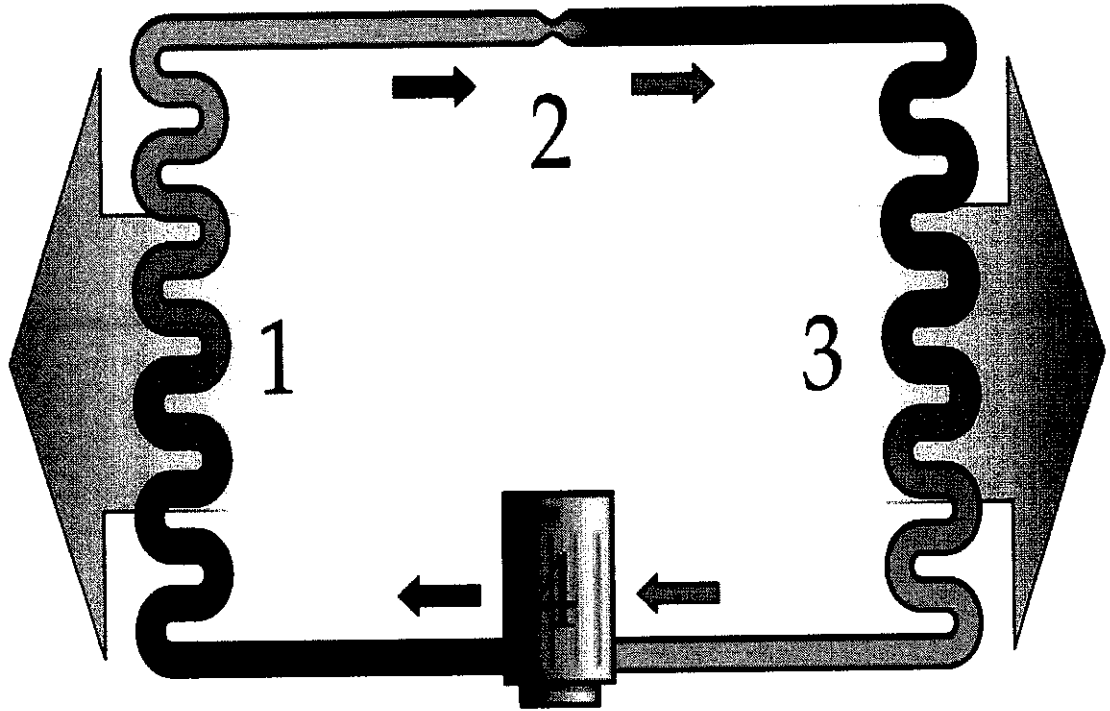

Figure A4 (c) / Rajah A4 (c)
- c) An air conditioner having a problem where it fails to do evaporation process. From Figure A4(c):